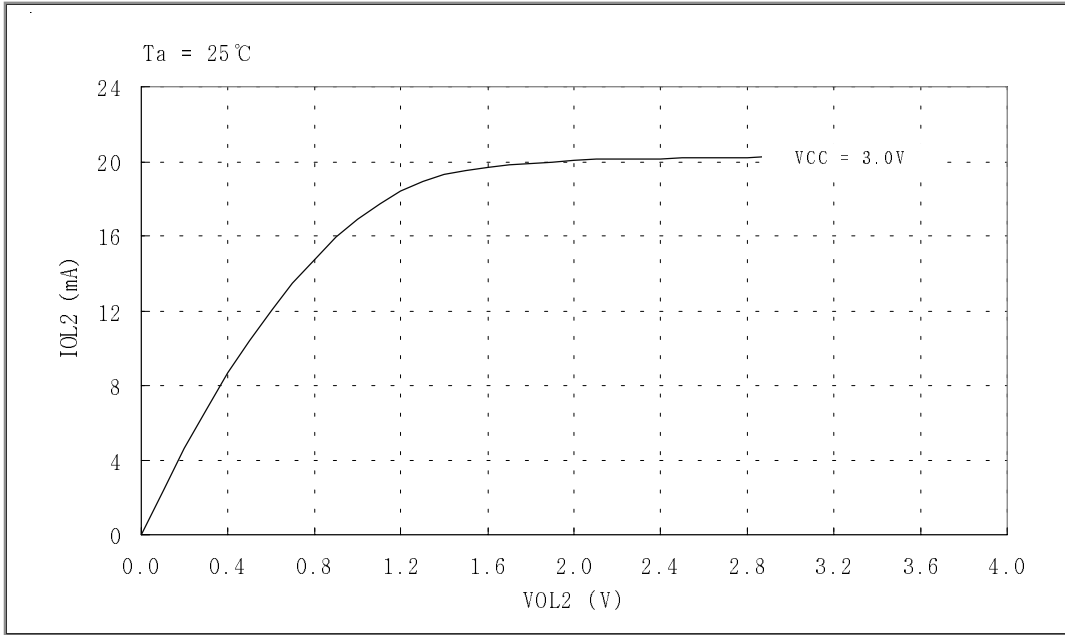

Fig 2-5. IOL2 vs. VOL2 Graph. (D, R Port)
*1 Refer to < Fig.2-5 I_{OL2} vs. V_{OL2} Graph >